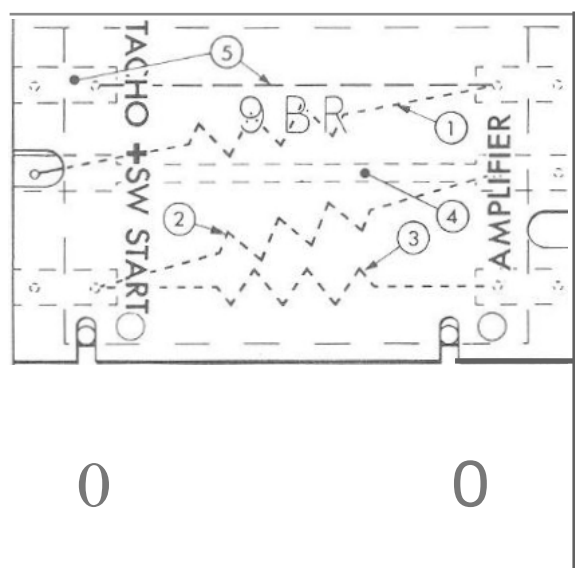

Fig. 4 Internal connections of ballast resistance unit
bracket (see Fig. 4). If the ballast resistance unit develops a fault, it cannot be repaired and must therefore be renewed.
External wiring connects two resistors (items 2 & 3, Fig. 4) in series with the ignition coil primary winding,
A third resistor in the ballast resistance unit (item 1, Fig. 4) is also connected by external wiring to the amplifier unit, this resistor being associated with the function of one of the transistors.
| (v) Ballast resistance unit | Refer Fig. 4 |
If so, switch off the ignition and extend the test by checking the resistance of each of the resistors in the ballast resistance unit (use a good quality battery-operated ohmmeter and refer to Fig. 4). If necessary, renew the ballast resistance unit.
Ballast Resistance Unit: Check with the ohmmeter, the resistance of each of the resistors (refer Fig. 4).